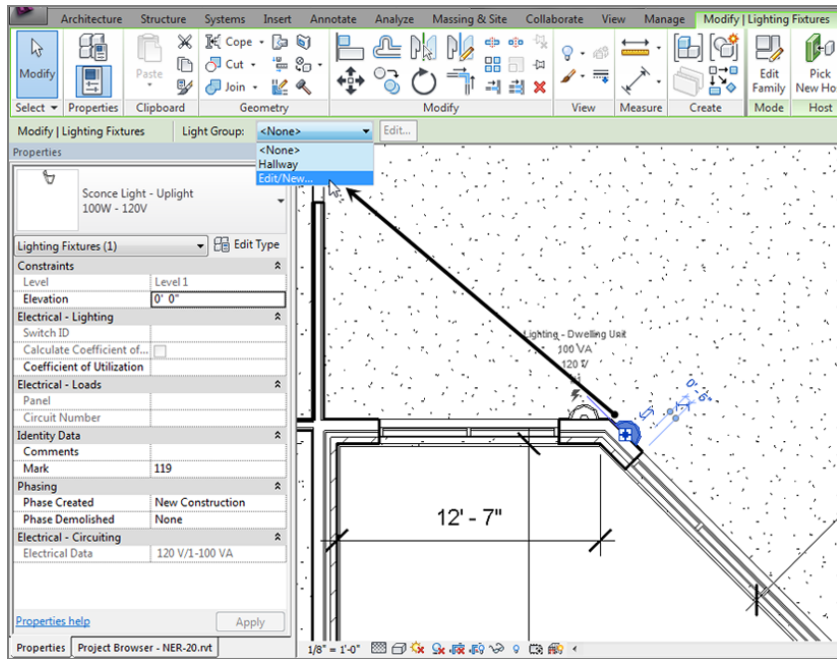

FIGURE 19.13: Adding lights
1. Select one of the sconces you just added to the model, as shown in Figure 19.13.
2. On the Options bar, click the Light Group menu, and select Edit/New (see Figure 19.13).